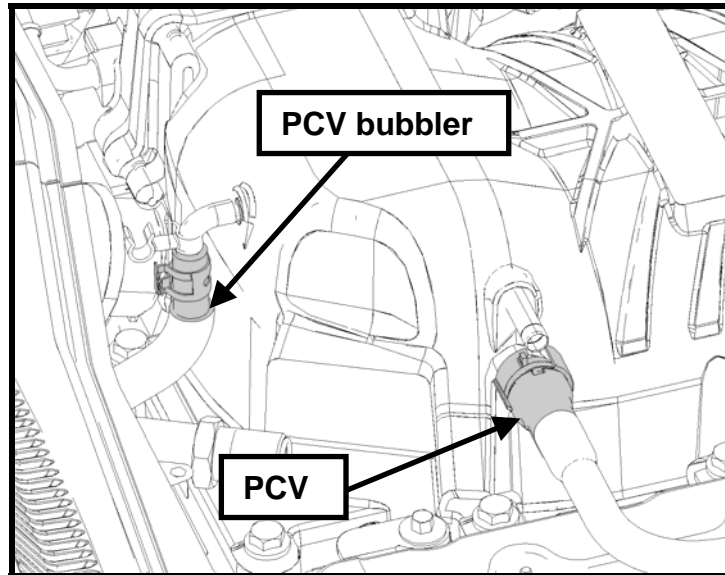

Fig. 21
**STEP 6:** Re-install the PCV and PCV bubbler lines to the supercharger housing (See Fig. 21).